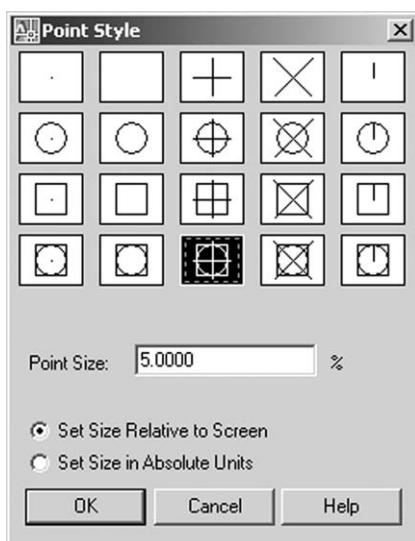

Figure 9.3 The Point Style dialogue box.
- c) Set Size Relative to Screen: active – Figure 9.3